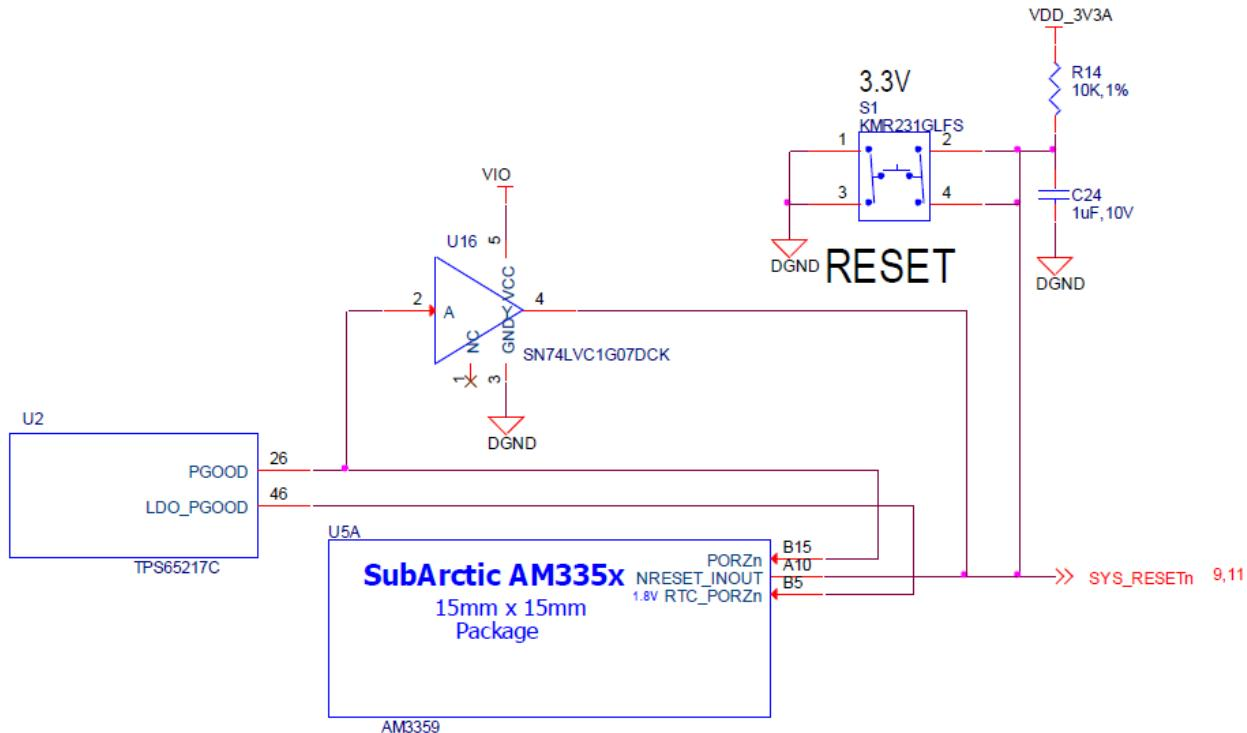

Figure 31      Board Reset Circuitry
**Figure 31** is the board reset circuitry. The initial power on reset is generated by the **TPS65217C** power management IC. It also handles the reset for the Real Time Clock.